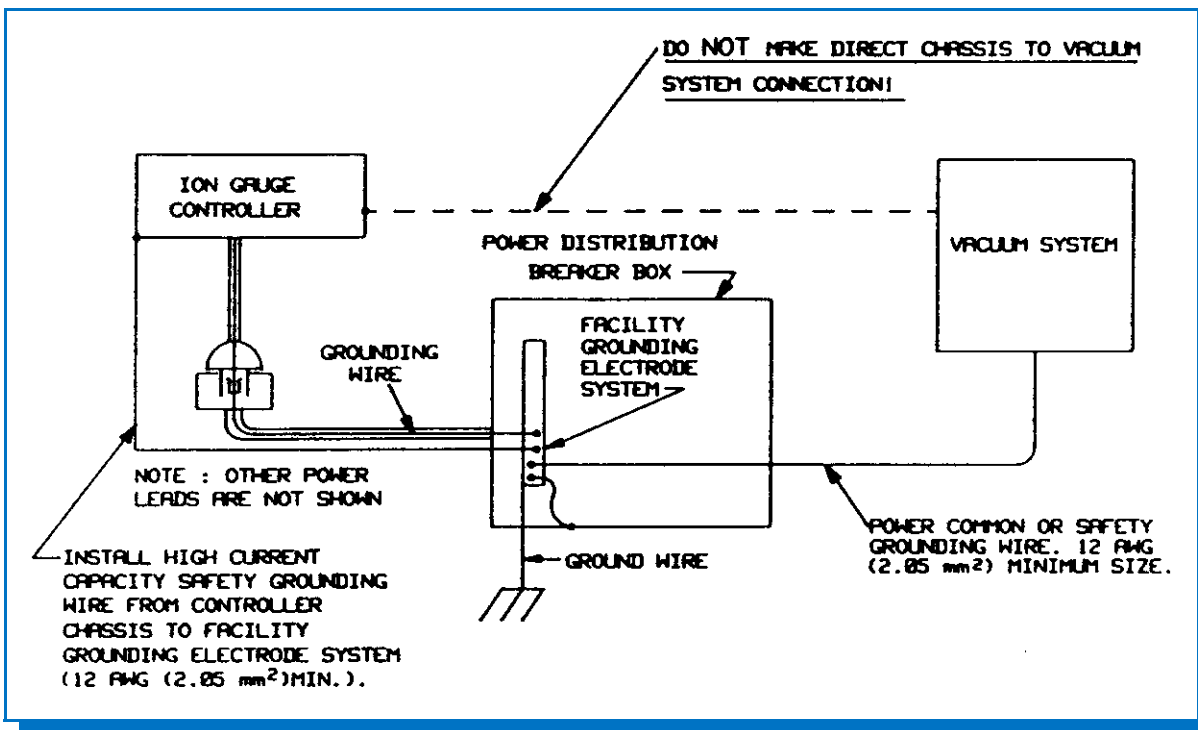

Figure 1-9 Correct System Grounding.
4. If the voltage change in Step 3 is greater than 17% due to the placement of the shunt, it complicates the measurement. The commonality of the grounds may be satisfactory and the coupling poor, or the commonality could be poor! Your electrician should be asked to check the electrical continuity between these two ground systems. The placement of a second ground wire (dashed line in Figure 1-9 on page 1-12) between the vacuum chamber and the power supply chassis is NOT a safe answer, for large currents could flow through it. Professional help is recommended.